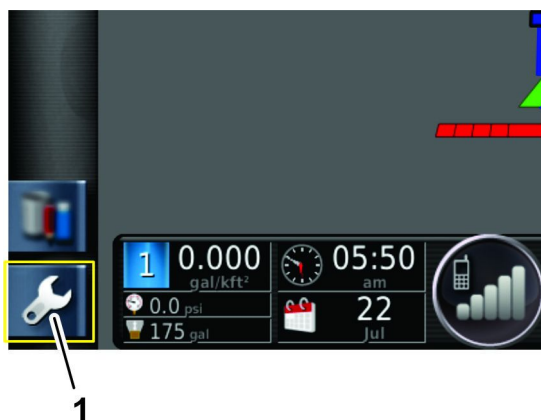

Figure 246
3. Press the SETUP icon on the main screen (Figure 246).